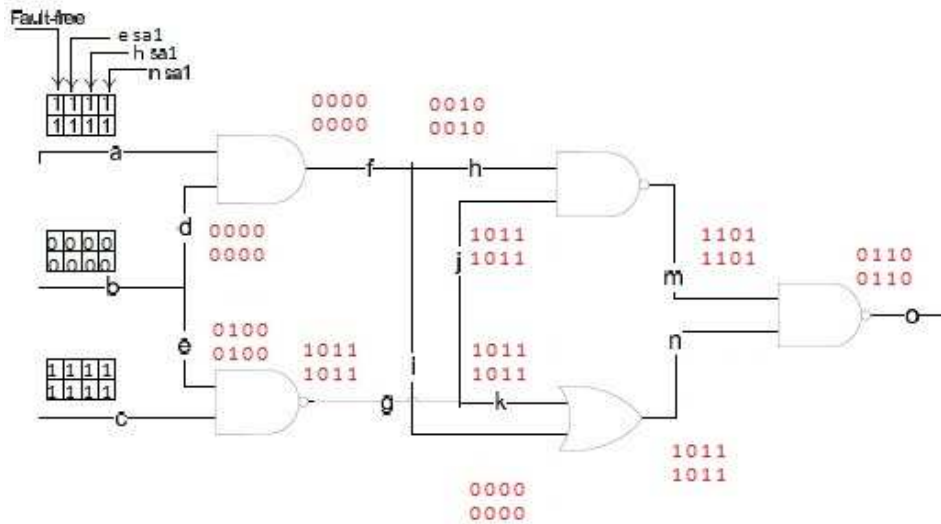

Figure 2: Parallel fault simulation
2. For the circuit in Figure 2, which is the same circuit as problem 1, perform parallel fault simulation for the vector $abc = 110$ and three faults: d stuck-at-0, h stuck-at-0 and n stuck-at-1 to determine which faults will be detected at the primary output.